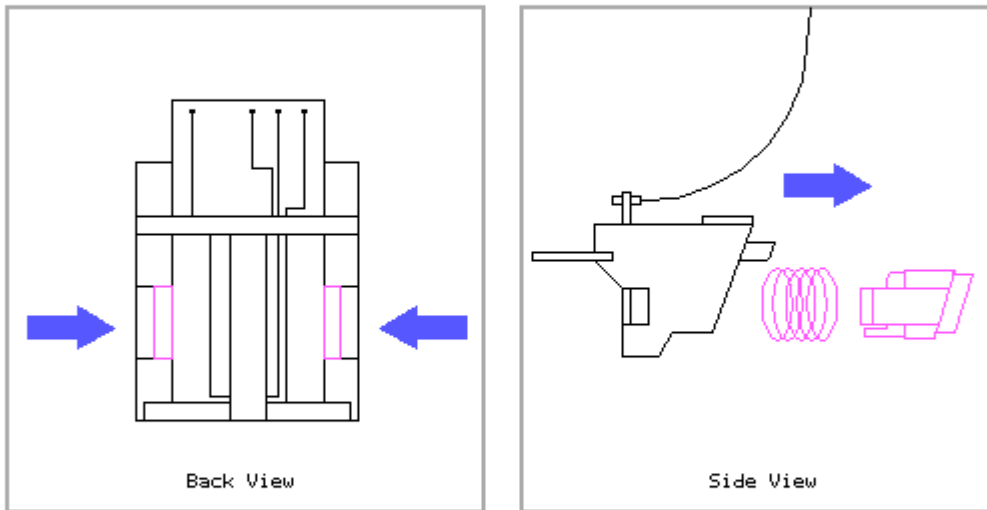

Figure 9-51. Removing the Switch Button and Spring
4. Simultaneously press the two release buttons on the switch and remove the switch button and spring (Figure 9-51).